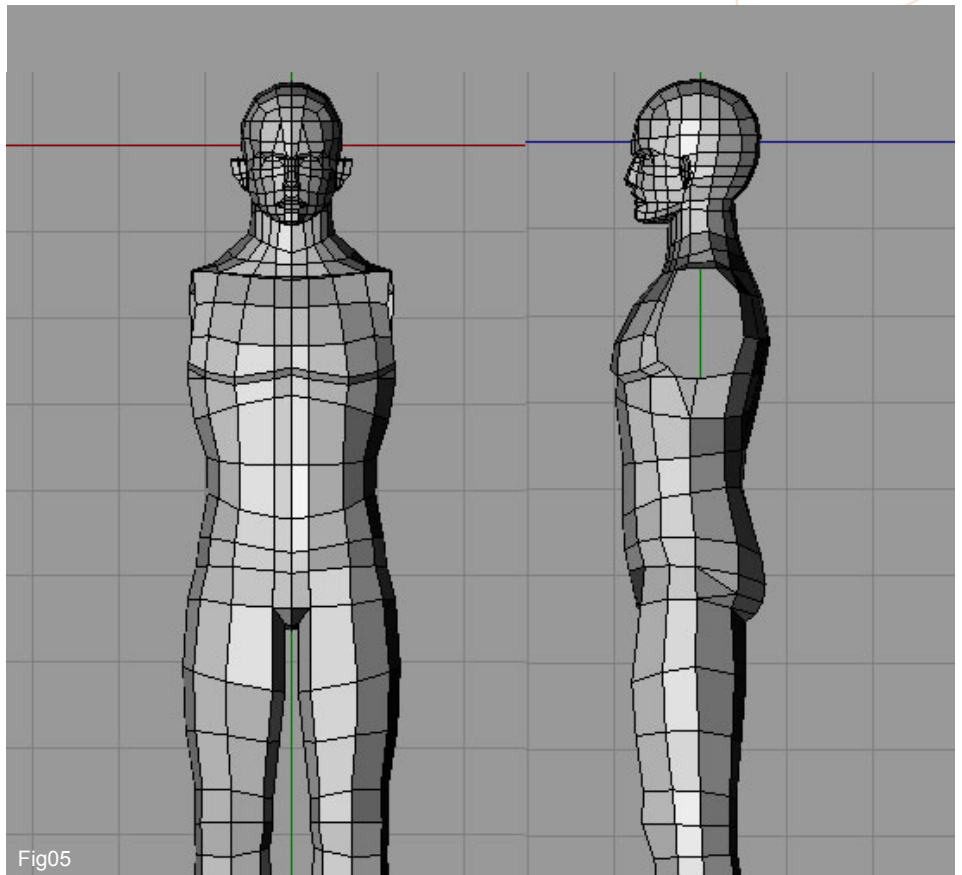

Fig05
5. With the same procedure extend the leg downwards to form the knee, calves and ankle. Now you will notice by Fig05, that the leg comprises of six new edges, all of which were shaped differently in accordance with the different parts of the leg.